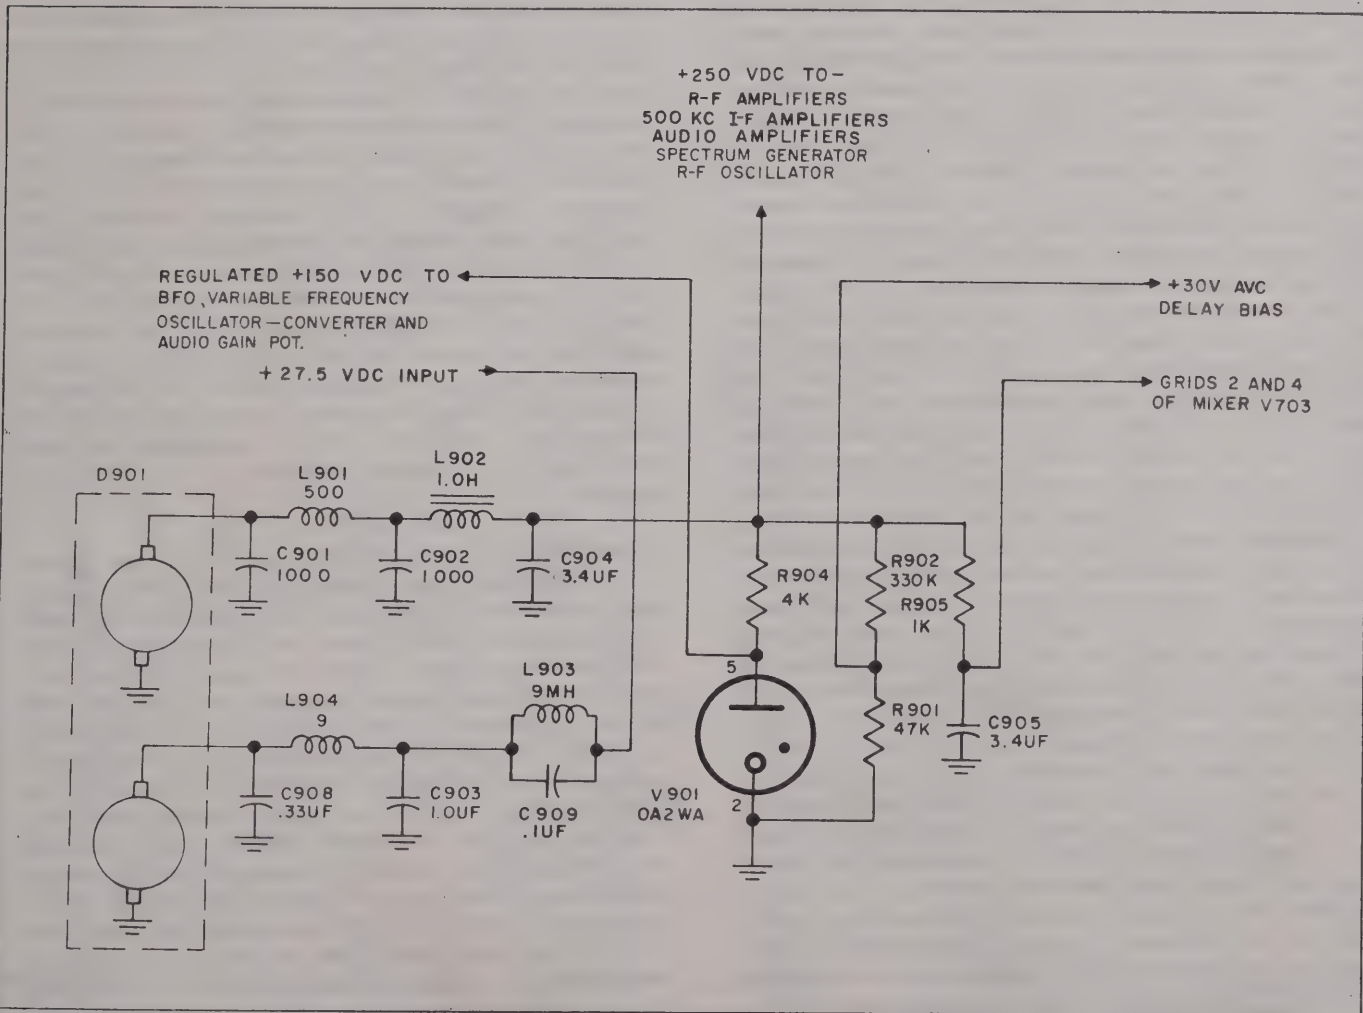

Figure 4-17. Dynamotor Power Supply. Simplified Schematic Diagram
**4-29. DYNAMOTOR POWER SUPPLY.** (See figure 4-17.) The dynamotor power supply supplies all voltages needed for operation of the R-648/ARR-41 Radio Receiver. The power input is supplied by a 27.5-volt d-c source. The 27.5-volt input is filtered by a parallel resonant circuit, consisting of L903 and C909, and by a pi-section filter, consisting of L904, C903, and C908. These filters prevent interference originating in the dynamotor from being coupled to the R-648/ARR-41 circuits and the primary power line. The filtered d-c is applied across the dynamotor low-voltage field, and the stepped-up output from the high-voltage field applied across the output filter, consisting of inductors L901 and L902 and capacitors C901, C902, and C904. The output of this filter is 250 volts d-c, which is used directly to supply the various plate voltages throughout the R-648/ARR-41, and is dropped to 30 volts by the divider arrangement of R902 and R901 for use in the AVC gating circuit. Resistor R905 and capacitor C905 perform the function